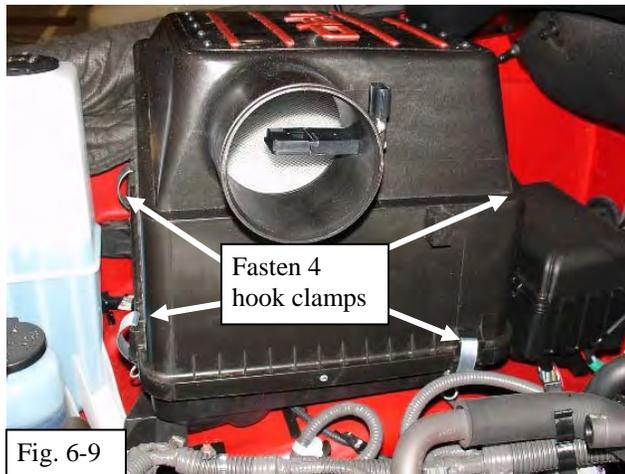

Fig. 6-9
- (j) Install TRD air filter lid (Fig. 6-9).
- (1) Fasten the 4 hook clamps.